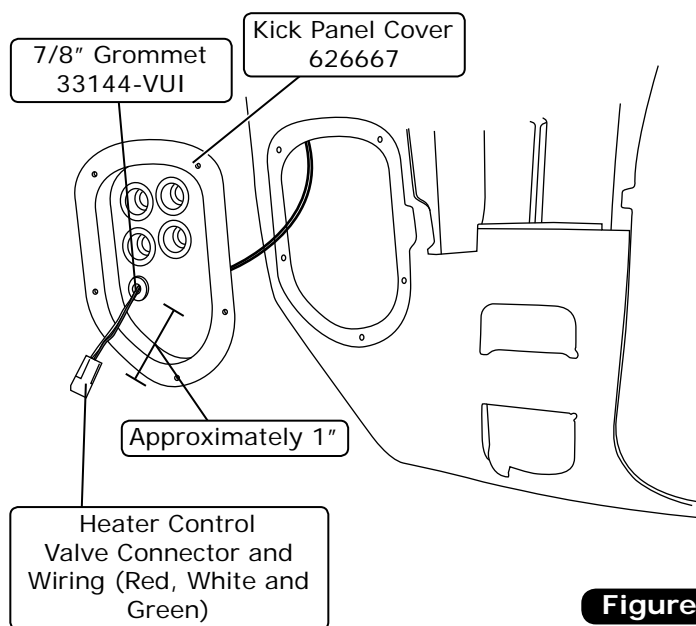

Figure 1
1. From the passenger compartment, route the heater control valve connector and wiring (red, white and green) through the 7/8" grommet in the kick panel cover (See Figure 1, below). **NOTE: Leave approximately 1" of wiring between the kick panel cover and the harness connector. This allows enough wiring to reach the harness.**